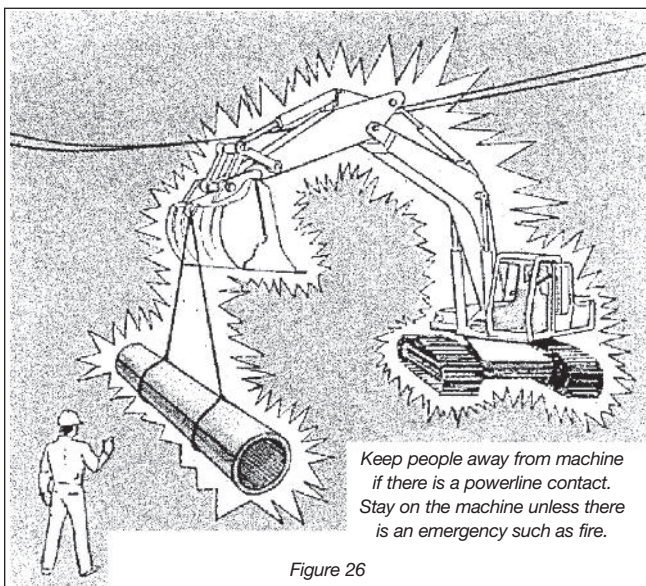

Figure 26
- 3) Keep others away. Warn them not to touch the load, load lines, boom, bucket, or any other part of the equipment (Figure 26).